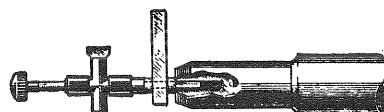

Figure 10—Special Soldering Iron Tip
- (e) After properly locating the damping block, a soldering iron should be applied to the armature so that the block will melt slightly at its point of contact with the armature. A special tip, constructed as shown in Figure 10, will prove desirable for fusing the block in place. The iron should be applied long enough to slightly melt the block and cause a small bulge on both sides, but should not be applied long enough to cause any bubbling. The pickup should then be reassembled as described in the preceding section.